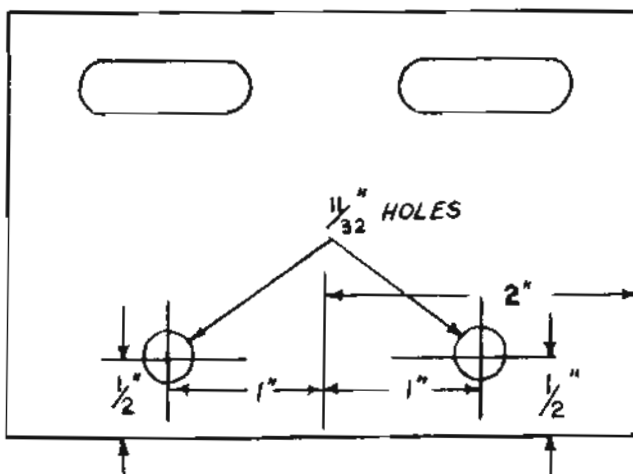

Fig. 4
- 4. Drill two 11/32" holes in the Instrument Board Lower Reinforcement Bracket, Part No. 1321224 as shown in Fig. 4.